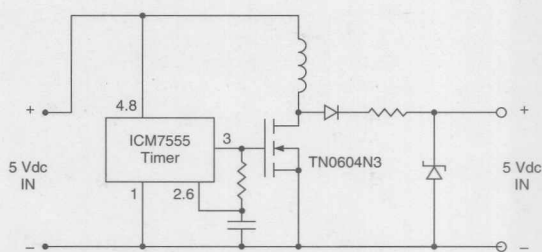

Figure 6: Charge Pump Converting 5VDC to 12VDC
- Figure 6 shows a simple charge pump converting  $5V_{dc}$  to  $12V_{dc}$ . The key parameter for efficient functioning of this circuit is  $R_{DS(ON)}$  at  $V_{GS} = 5$  volts.